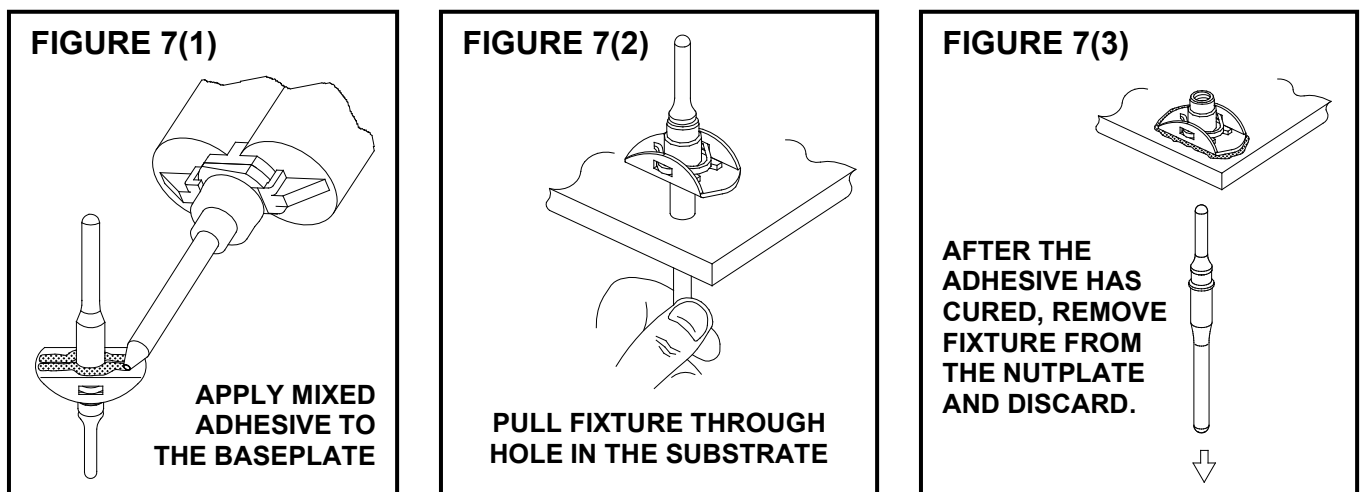

FIGURE 7. PROCEDURE FOR INSTALLATION OF STANDARD TYPE NUTPLATE
- 2.6.3.1 **Nutplate – Standard type.** Figure 7 indicates the sequential steps required to install the standard surface mount type nutplate.
- 2.6.3.1.2 **Apply the mixed adhesive as two linear beads along the long axis of the nutplate baseplate as shown in Figure 7(1).** One bead should pass around each side of the installation fixture, and the amount of material in the beads should be controlled to give a small and uniform amount of material squeeze out when the nutplate is pulled into position against the substrate as shown in Figure 7(2).
- 2.6.3.1.3 **Each nutplate is furnished with an integral, disposable, elastomeric installation fixture to align and hold the nutplate to the surface and keep adhesive out of the hole and threads.** This fixture may be removed as soon as the adhesive cures as in Figure 7(3), or left in place as a paint mask until after painting the detail part.